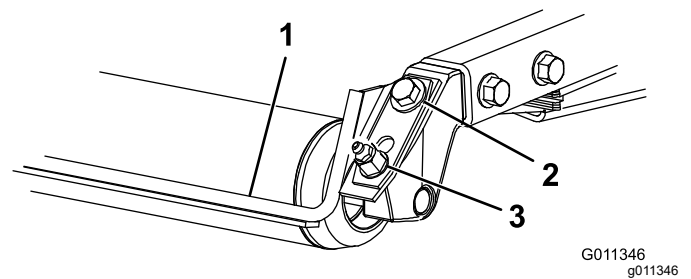

Figure 5
1. Loosen the grease fitting and mounting screw (Figure 5).